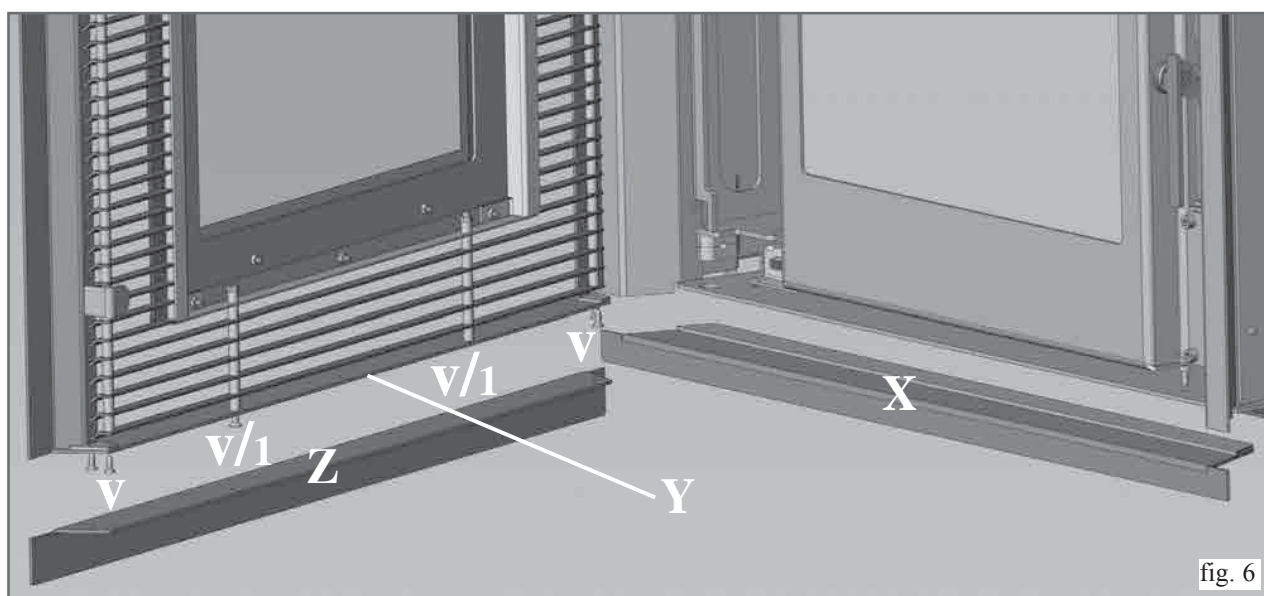

fig. 6
Open the Inpellet 54 external frame with grille and assemble the lower frame profile (X) on the lower base of the structure, fastening it with the screws provided (see fig.6).
On the external frame with grille, replace the already-assembled lower flat profile (Y) with the lower "L" profile provided (Z), unscrewing the 4 self-threading screws (V) and the 2 screws with nuts assembled on rods (V/1) (see fig.6).